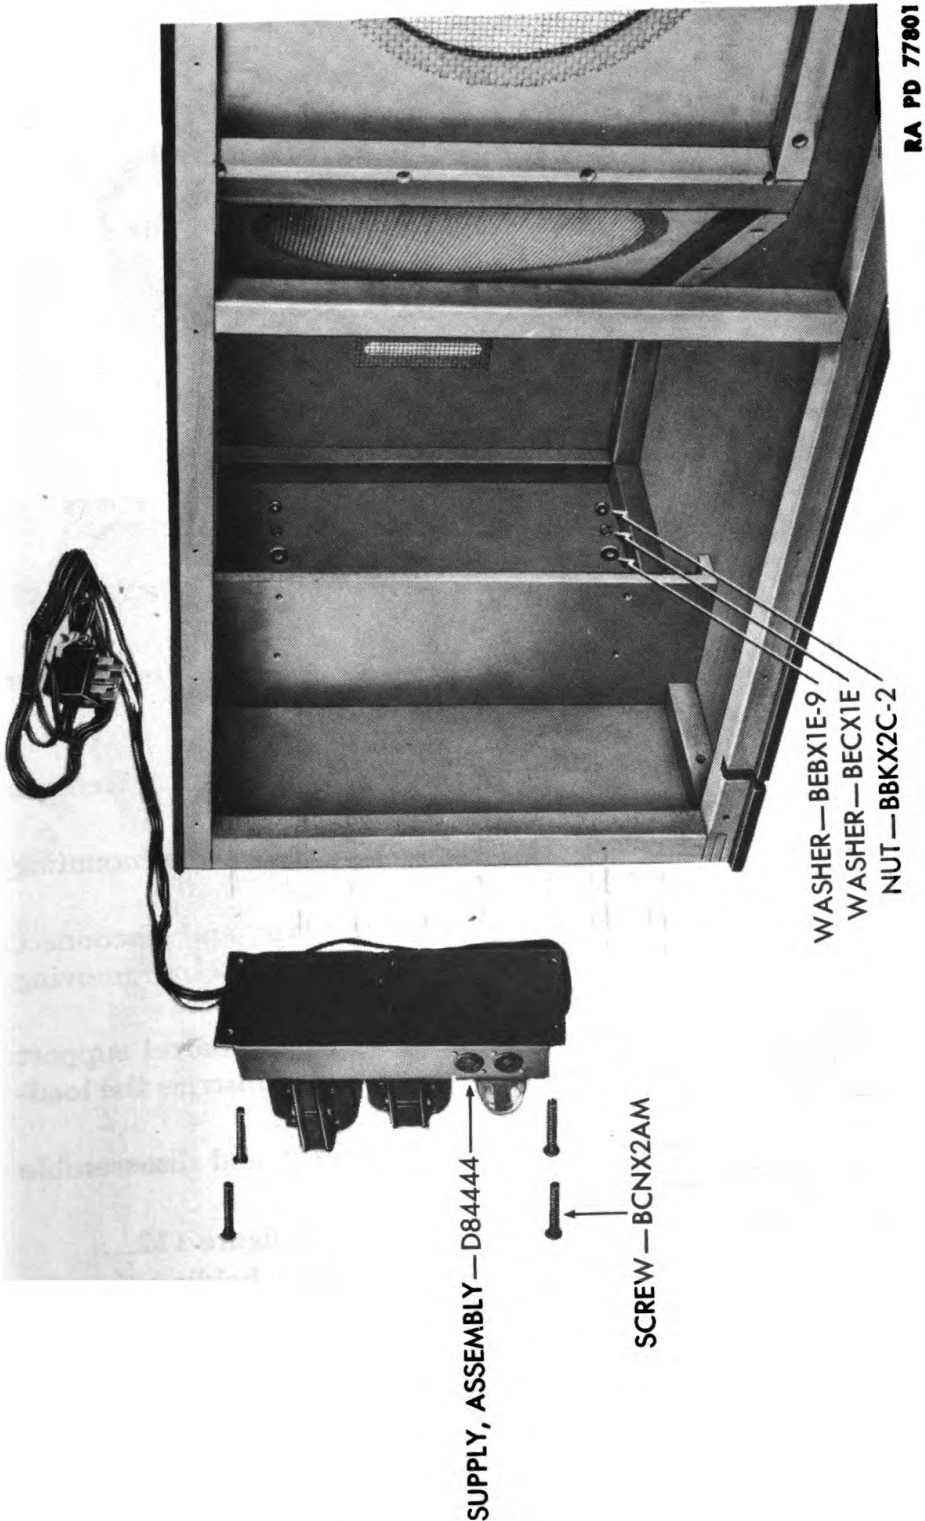

Figure 98 — Removal of Power Supply Assembly From Cabinet
(11) Unscrew the four mounting nuts and remove the power supply unit from the cabinet (fig. 98).
removed by prying it from the chassis after the screws and nuts are removed, as shown in figure 98.